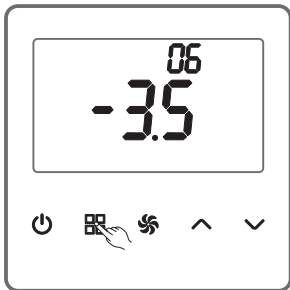

Figure 12
As shown in the Figure 12, on the parameter setting page, press  (MODE) to switch the option number to 06.  (UP) or  (DOWN) is provided to a  $0.5^{\circ}\text{C}$  increase or decrease within  $-5^{\circ}\text{C}\sim+5^{\circ}\text{C}$ .